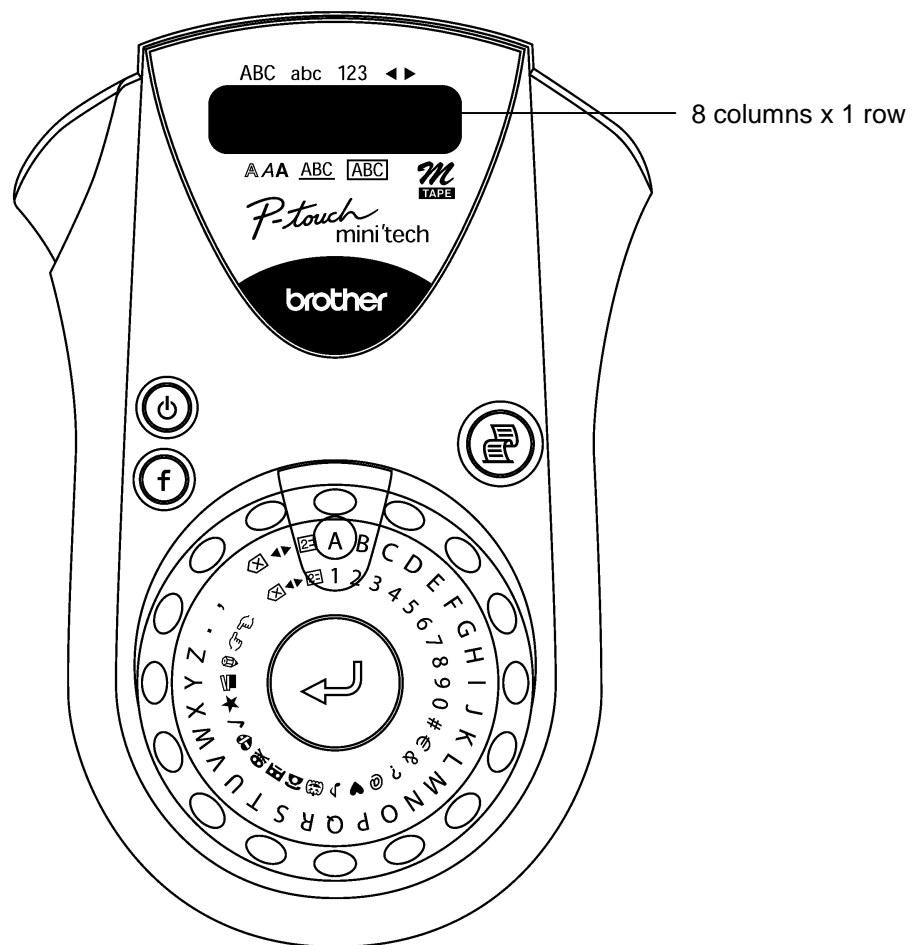

Figure 1.1-2 Key Arrangement
(See Figure 1.1-2.) |
| (3) Number of indicators | 7 (See Figure 1.1-2.) |